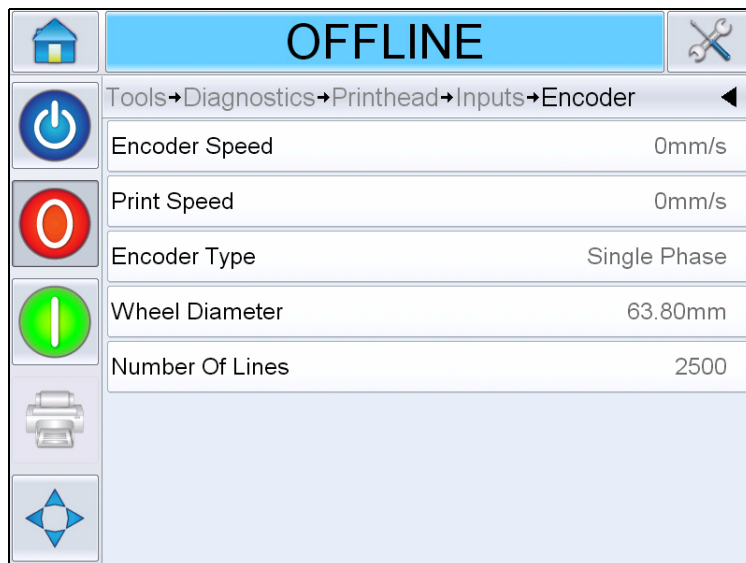

Figure 4-11: Encoder Diagnostics Page
- Encoder: Touch the *Encoder* button to view the *Encoder* diagnostics page. The *Encoder* diagnostics page allows the user to view the following encoder parameters (see Figure 4-11).